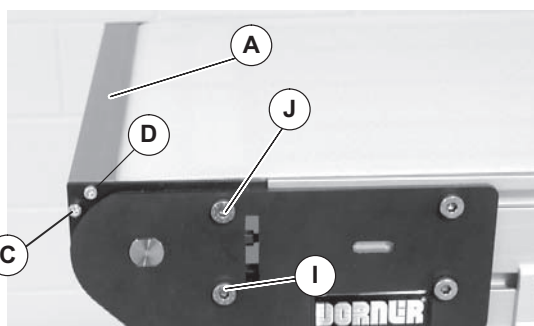

Figure 7
- Place transfer plate support (Figure 7, item A) on end of conveyor and attach with screws (C) and (D) on each side of conveyor. Tighten screws (C and D) to 50 in-lbs (5.6 N-m).
- Tighten screws (Figure 7, item I and J) to 146 in-lbs (16.5 N-m).